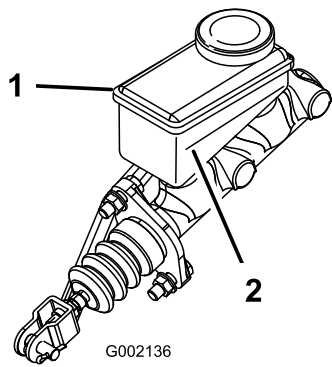

Figure 58
3. Look at the outline of the fluid level at the side of the reservoir (Figure 58).
- B. Add DOT 3 brake fluid to the reservoir until the fluid level is above the Minimum line (Figure 58).